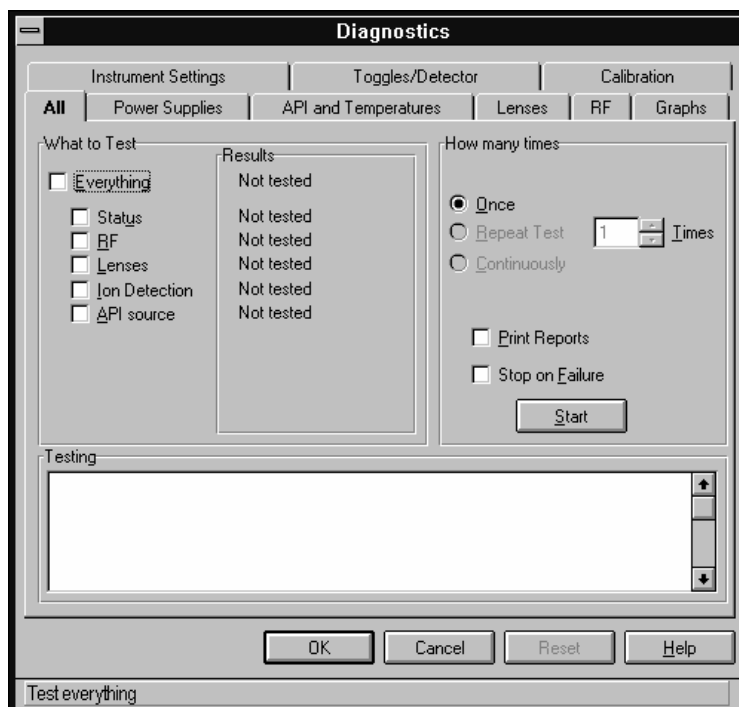

Figure 13. Diagnostics dialog box.
- 8.2.2.10.1. To test all of the electronic subsystems, go to the Diagnostics dialog box, click on the All tab and select the Everything option. See Figure 13.